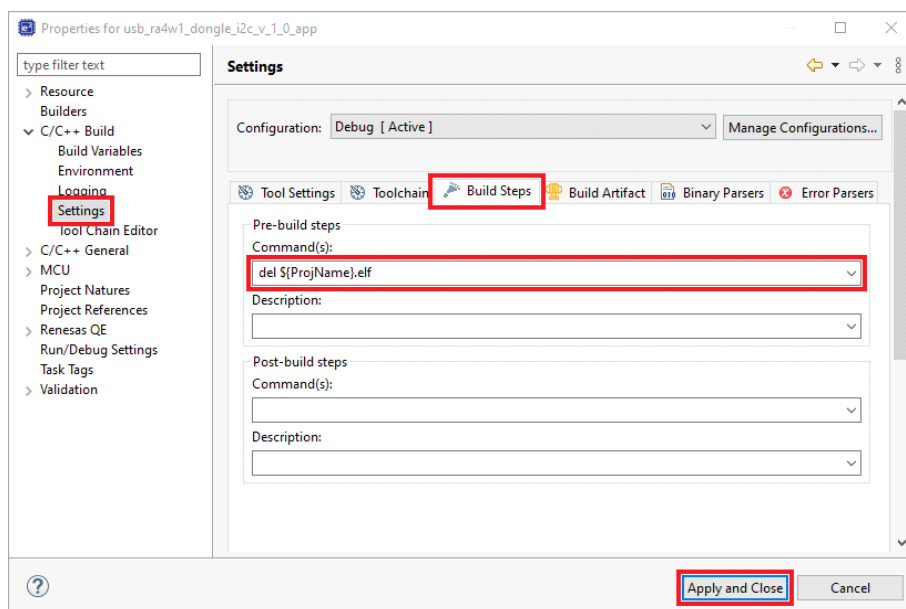

Figure 27. Adding a Pre-Build Command
16. Select **C/C++ Build > Settings** and select the **Build Steps** tab (Figure 27).